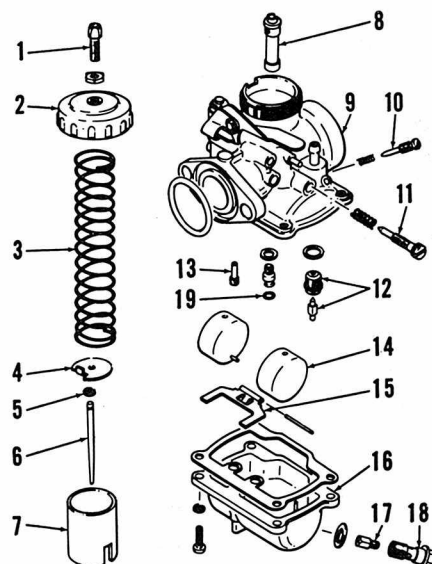
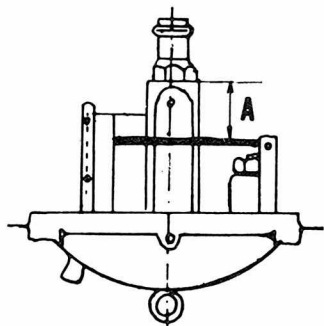

Fig. S14-1—Exploded view of carburetor common to all models.
Fig. S14-2—Float level (A) is adjusted by bending portion of float arm that contacts fuel valve assembly (12—Fig. S-14-1).
**CARBURETOR.** All models are equipped with 28 MM Mikuni sliding valve carburetors. Pilot air screw (10—Fig. S14-1) should be 1½ turns out from a lightly seated position for
the initial setting. Float level (A—Fig. S14-2) should be a 6.8 MM (0.268 inch) and is measured by inverting mixing chamber body and checking distance from float arm to jet fitting boss. Refer to Fig. S14-1 and the following standard specifications: